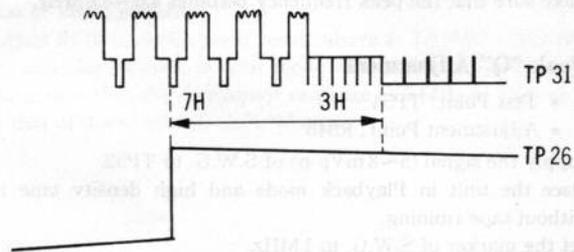

Fig. 23
3. Adjust R204 for 7H as shown in Fig. 23.